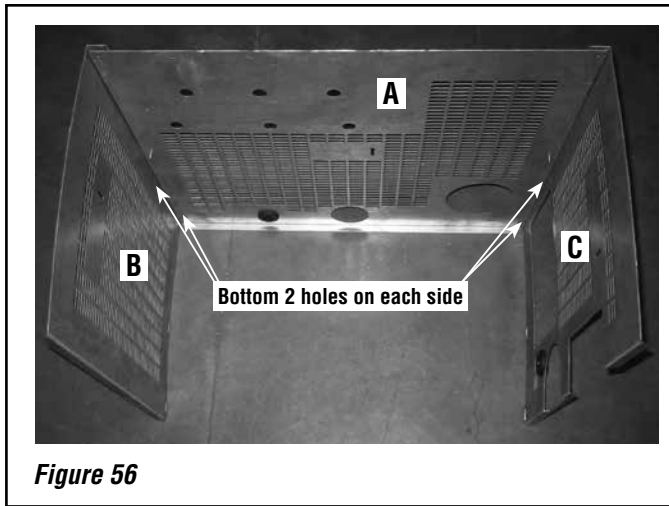

Figure 56
- Assemble the perimeter (see Figure 56) - Using only the bottom 2 holes on each side, screw the left side panel (B) and the right side panel (C) to the back panel (A).